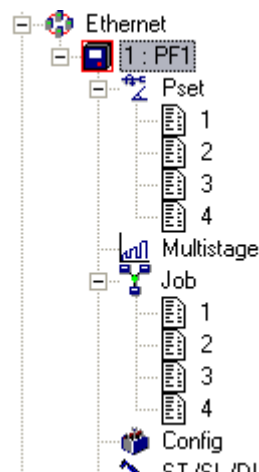

Figure 3: Created Psets and Jobs
3. Create a couple of Psets and Jobs (Figure 3).